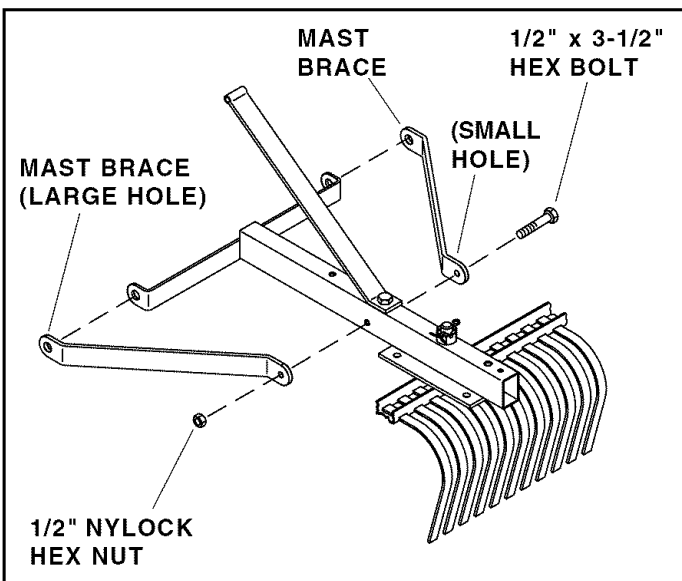

FIGURE 5
- Attach two mast braces to the sides of the mast assembly using a 1/2" x 3-1/2" hex bolt and 1/2" Nylock hex nut. Use the end of the brace with the smallest hole. **Do not tighten yet.** See figure 5.